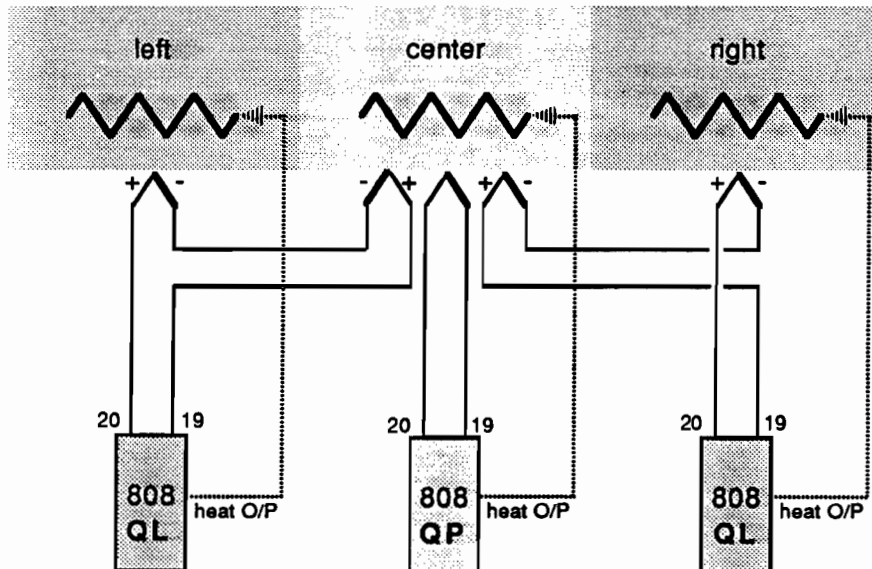

Figure 3.3. Input connections for differential temperature control (thermocouple bucking).
- Differential temperature control (thermocouple bucking). See Figure 3.3 for connections.